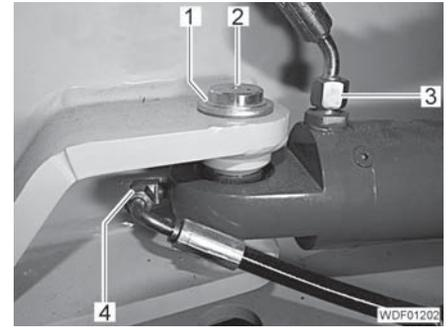

Fig. 132 Steering cylinder, bottom end
- Unscrew and close off the hydraulic line (Fig. 132,3).
- Unscrew the remote lubrication line (Fig. 132,4).
- Remove the locking ring (Fig. 132,1) and take off the washer.
- Drive out the pin (Fig. 132,2) downwards.